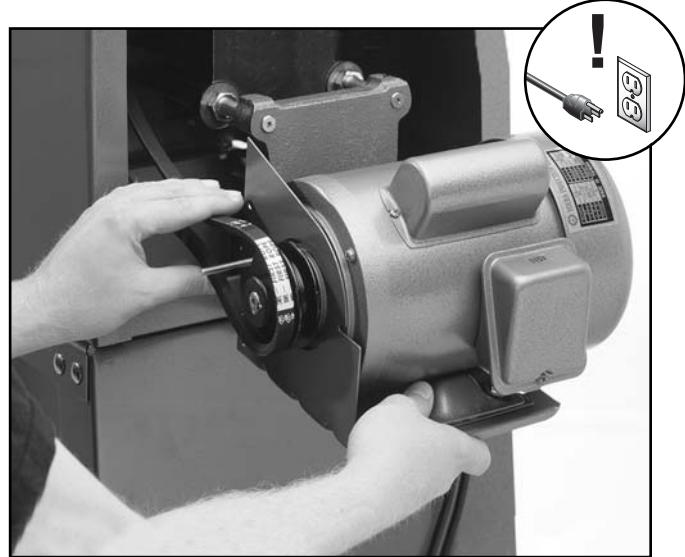

Figure 20. Attaching the V-belt to the motor.
11. Lift the motor up and slip the V-belt over the grooves in the pulleys. Slowly release the motor, allowing its weight to add tension to the V-Belt as shown in **Figure 20**.